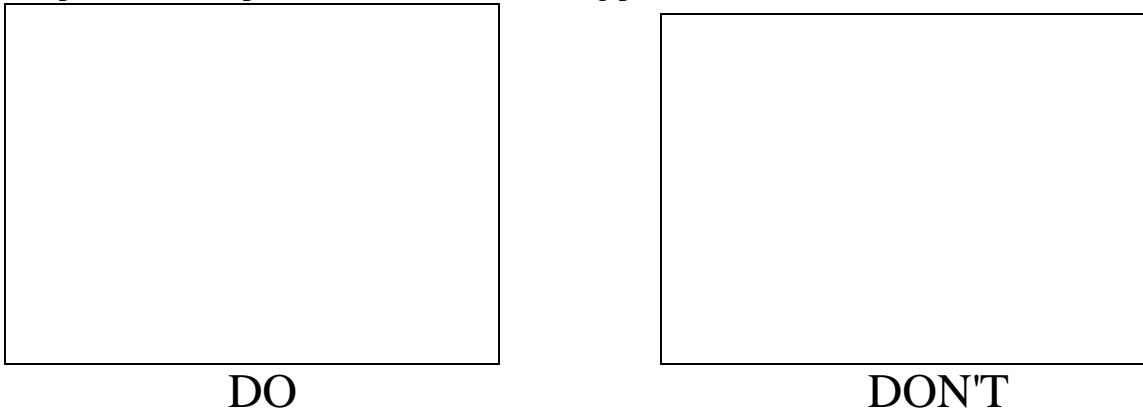

Figure 4: Terrain
2. Terrain Since operation of the link requires transmission of energy from Transmitter to Receiver, it is important to maintain a clear line of sight between the units; therefore, the ground must be flat across the protected area. Any bumps, hills or ditches must be filled so that the area is flat to within (6) inches (15cm). Refer to Figure 4.